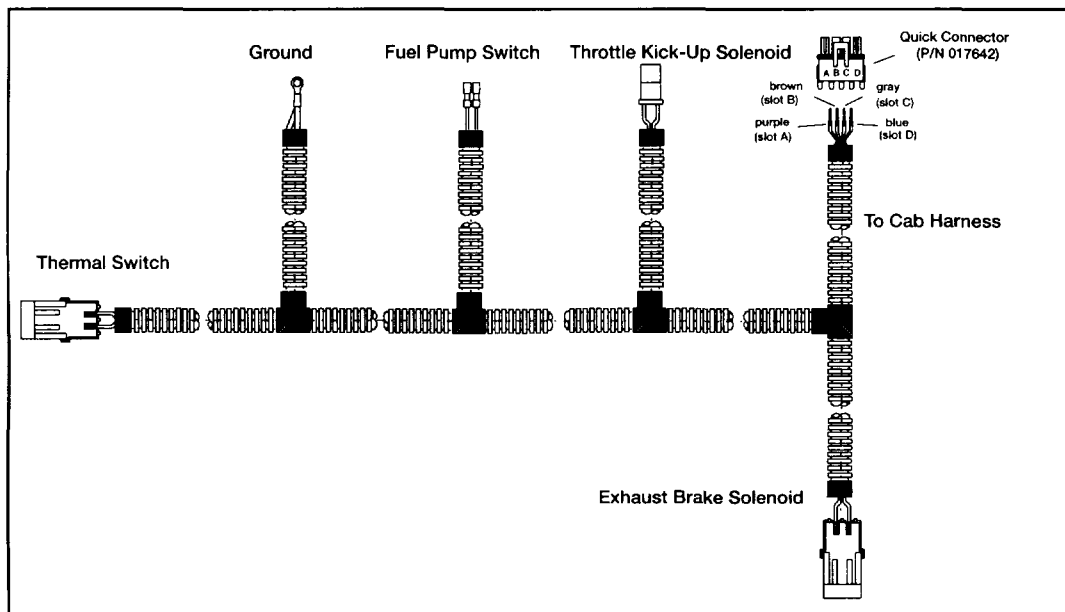

Figure 3
1. Remove the Exhaust Brake Compression Fitting Assembly (P/N 018912) from the inlet side of the Exhaust Brake Solenoid Valve (P/N 019304). Refer to Figure 3 of the Exhaust Brake Installation Manual (P/N 019747B).
Install the Engine Wire Harness (P/N 022636), observing the following connections (see Figure 3):